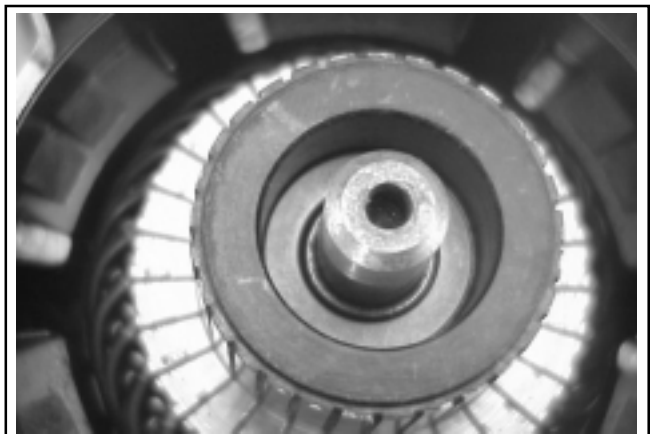

Figure 8-34. Installing Thrust Washer.
9. Install the flat thrust washer onto the commutator end of the armature shaft. See Figure 8-34.